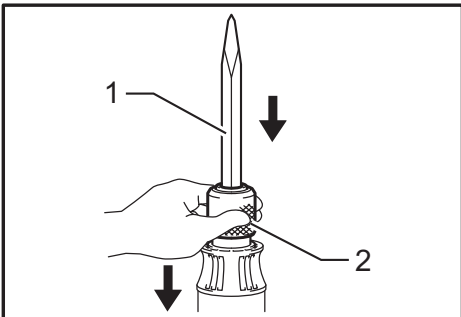

Fig.4
► **Fig.4:** 1. Bit 2. Change ring